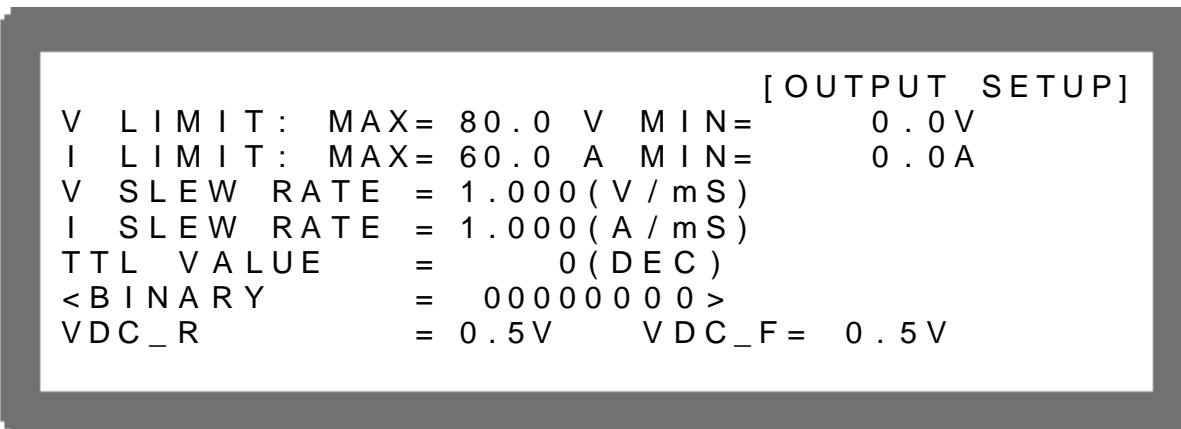

Figure 3-16
1. In Config Setup page, press “” key to display the screen of Figure 3-16.
**Notice** The values in Figure 3-16 are the default settings of 62012P-80-60.